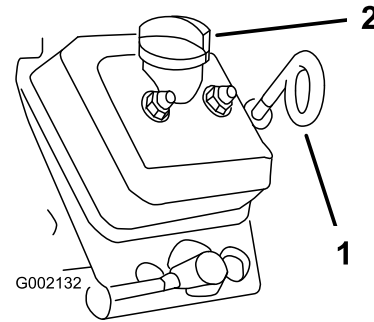

Figure 42
8. Clean around the oil dipstick, fill cap, and filler neck, and remove the dipstick (Figure 42).
9. Remove the fill cap and pour the specified oil into the into the filler neck until the oil level is up to the Full mark on the dipstick (Figure 42).
10. Insert the dip stick fully into the dipstick tube, remove the dipstick, and check the oil level (Figure 42).
11. Install the dipstick into the dipstick tube and the fill cap into the filler neck until the dipstick and cap are firmly in place (Figure 42).